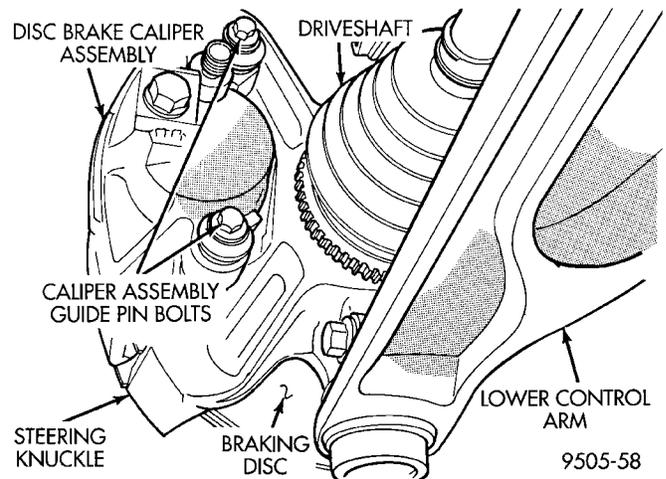

Fig. 58 Caliper Guide Pin Bolts
(1) Raise vehicle on jackstands or centered on a hoist. See Hoisting in the Lubrication and Maintenance section of this manual.
(2) Remove the front wheel and tire assemblies from vehicle.
(3) Remove the 2 guide pin bolts (Fig. 58) mounting the caliper to the steering knuckle .
(8) Install the caliper guide pin bolts (Fig. 58) and tighten to 18 to 20 N-m (192 in. lbs.). **Extreme caution should be taken not to cross thread the caliper guide pin bolts.**
(9) Install the wheel and tire assembly.